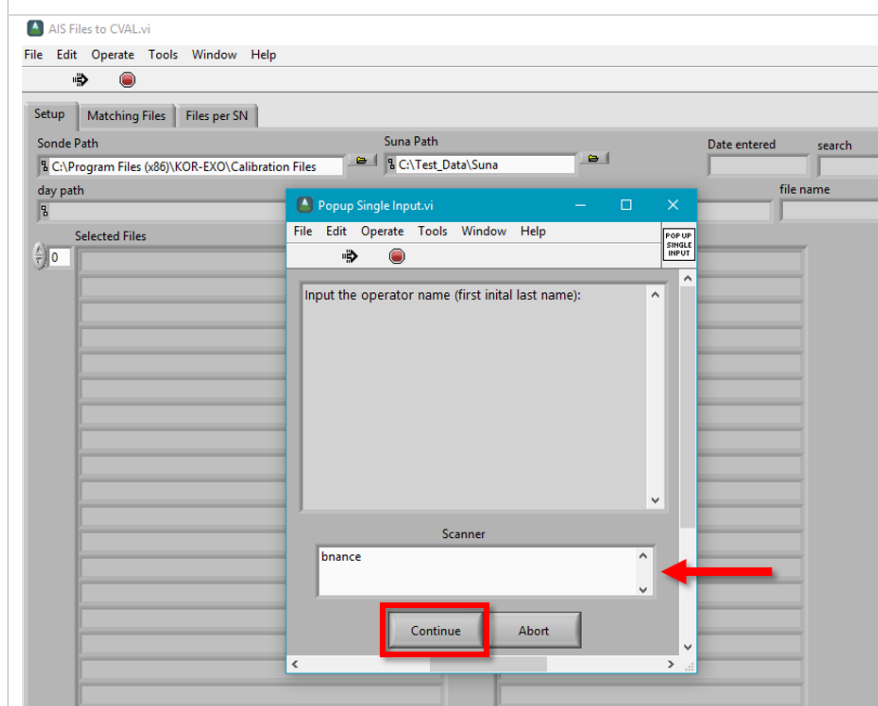

Figure 165. Input Operator Name
**STEP 4** | Follow the prompts. Input operator name in the following order: **first initial last name** (Figure 165). (Your Battelle Ecology username.)